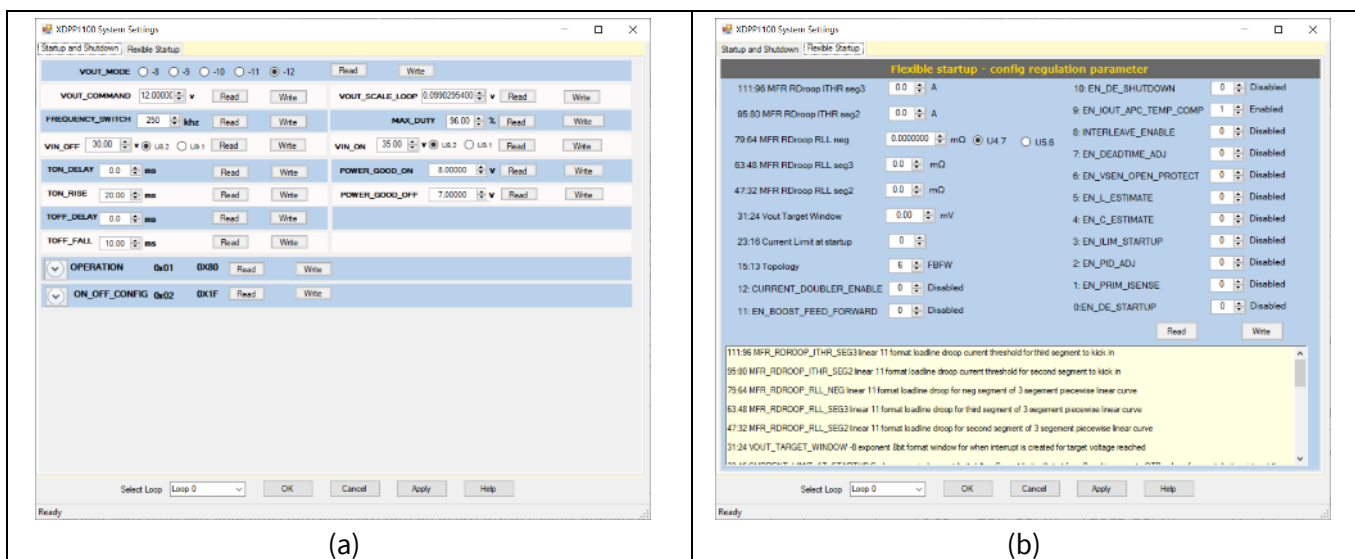

Figure 22 XDPP1100 System settings - a) startup and shutdown, b) flexible startup
The **XDPP1100 System Settings** window will be opened with **Startup and Shutdown** and **Flexible Startup** tabs (Figure 22).
Various startup and shutdown features of the XDPP1100 such as soft-start time, soft-stop time, turn-on delay, turn-off delay, on/off configuration, and response to enable command can be configured in this tab (Figure 22). The PMBus commands in this tab are the standard PMBus commands, and their description can be found in PMBus specification documents.
Advance startup features of the XDPP1100, such as multi-segment droop, and some FW features such as current sense (CS) temperature compensation and diode emulation startup can be configured in this tab (Figure 22). The PMBus commands in this tab are the Infineon-specified PMBus commands, and their description can be found in the XDPP1100 application note (link to download)
This evaluation board uses PCB trace as a shunt resistor to measure the output current. To achieve better current measurement accuracy over the wide temperature range, temperature compensation of the output current is enabled. To do so, **EN_IOUT_APC_TEMP_COMP** is set to 1 in **Flexible Startup** window (Figure 22). Temperature coefficient is set to 0.0039 internally for the copper.